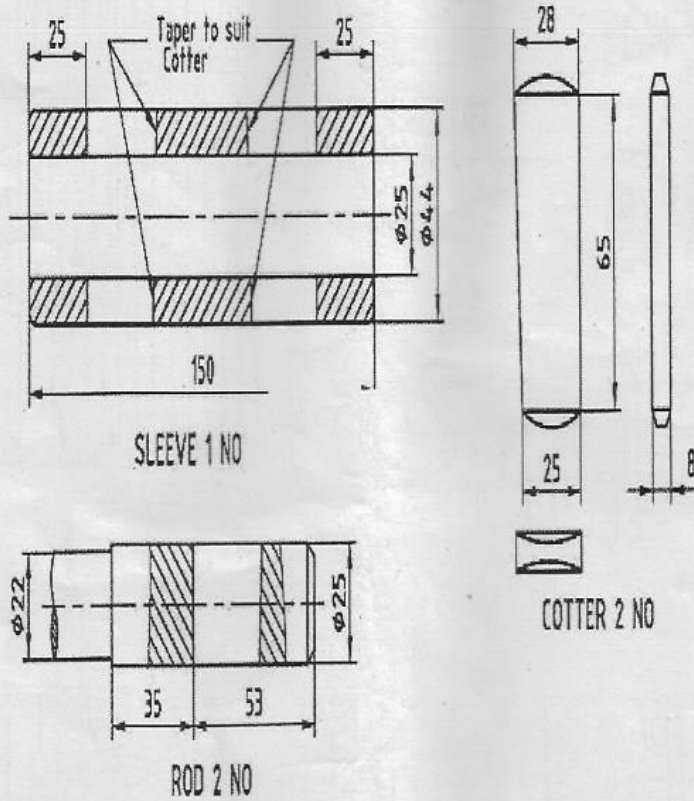

Fig.2
- (b) Details of a sleeve and cotter joint is shown in Fig. 2. Draw the following views of the joint showing all parts assembled. (i) Sectional front view (ii) Left side view. Show only important dimensions on the assembly drawing. Add the item list